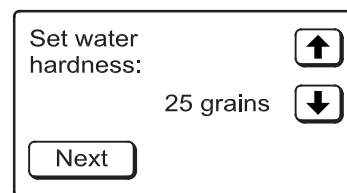

FIG. 18
**3. WATER HARDNESS:** Press the UP (↑) or DOWN (↓) buttons to set the value of your water's hardness (See Figure 18), then press the NEXT button.